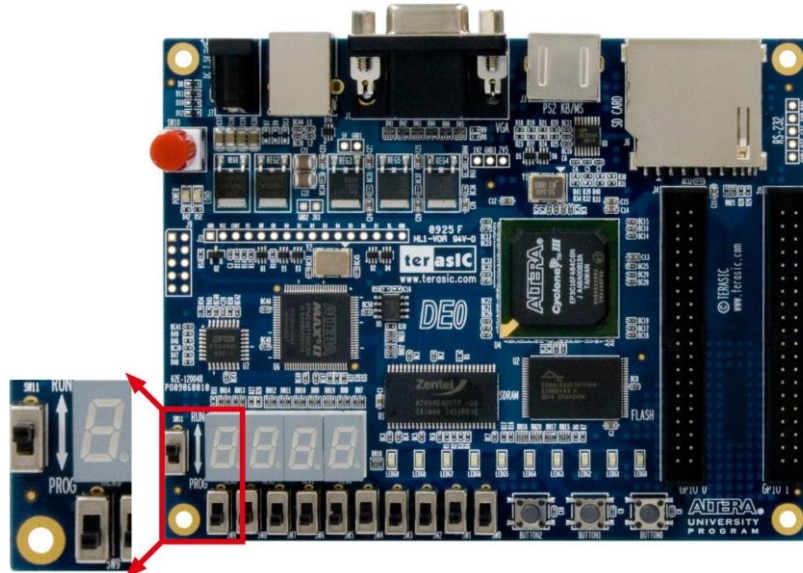

Figure 4-2. The RUN/PROG switch (SW2) is set in JTAG mode
- Configure the JTAG programming circuit by setting the RUN/PROG switch (see Figure 4-2) to the RUN position.